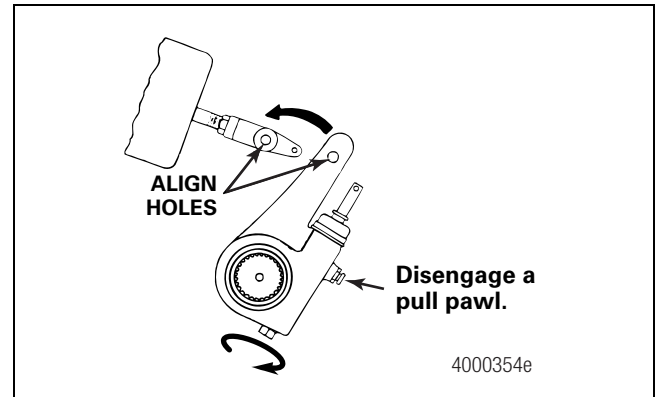

Figure 7.10
- Disengage the pull pawl. Turn the manual adjusting nut to align the holes in the slack adjuster arm and clevis. Figure 7.10.